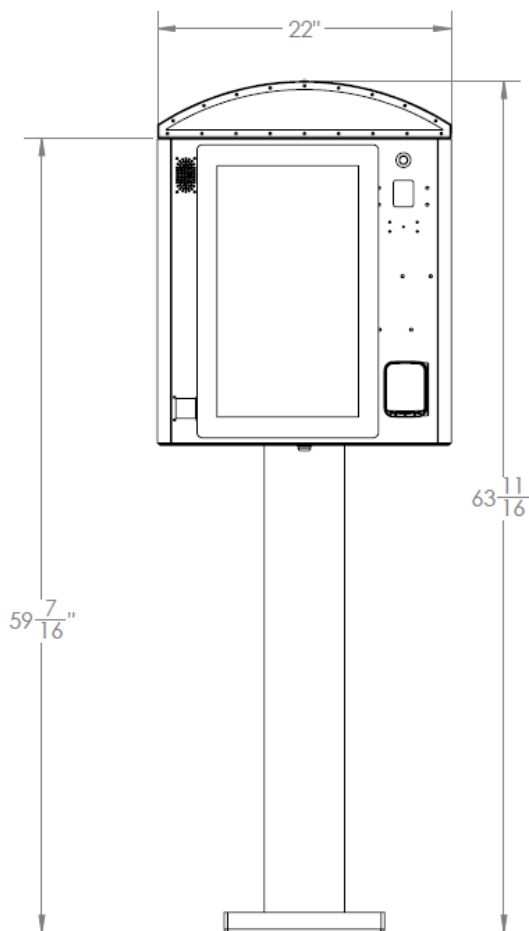
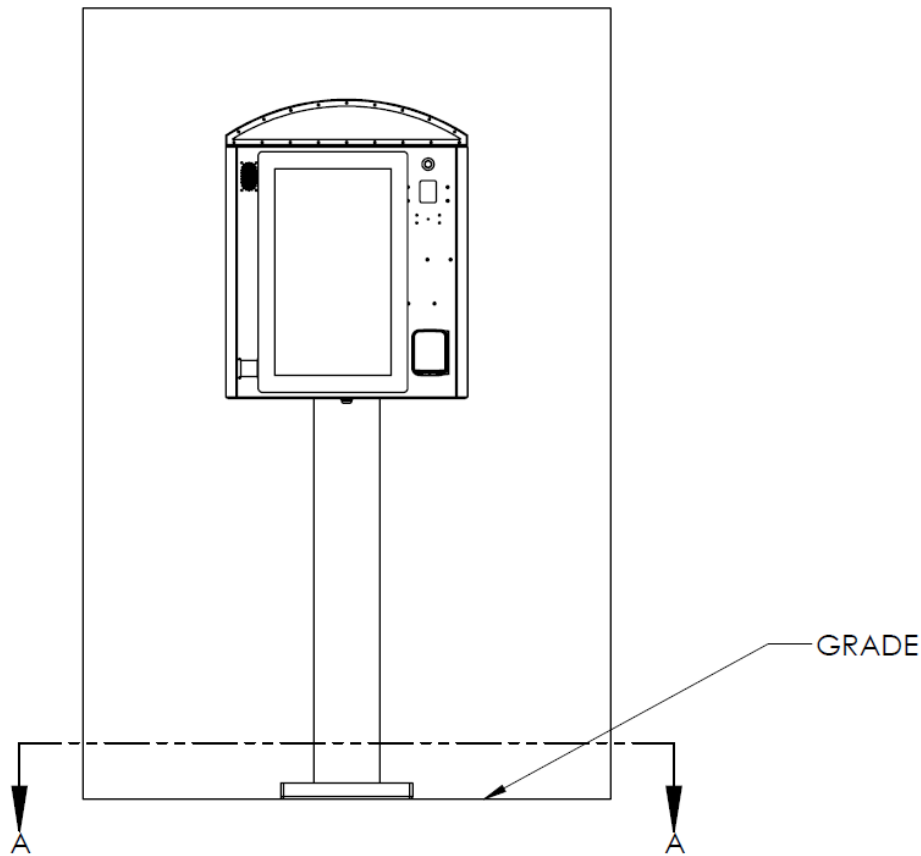
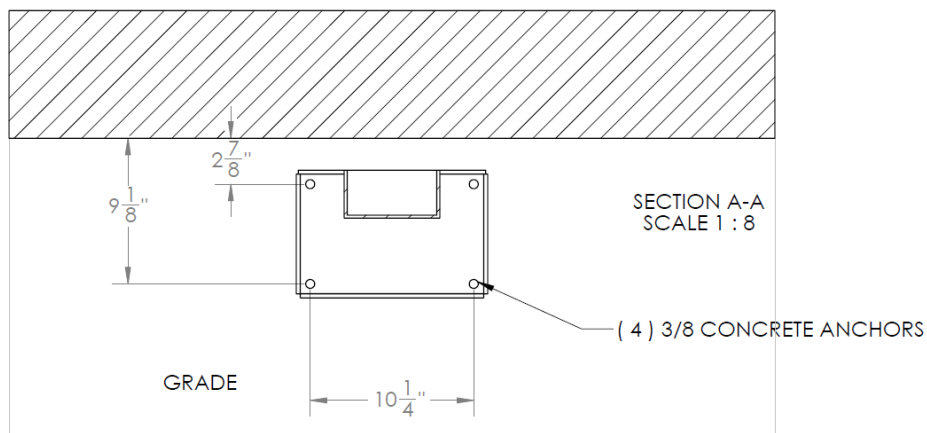

Figure 4: Model 120 Pedestal Mounting
Figure 5: Model 120 Pedestal Mounting Section Line
Figure 6: Model 120 Pedestal Mount (Anchoring Dimensions)
The INSOMNIAC 120 may be mounted on a concrete pad. Four (4) bolts will need to be anchored into the pad with which the pedestal base is to be attached. Holes in the pedestal base allow for 3/8" bolts to be used (please follow the bolt manufacturer's recommendations when anchoring bolts in concrete). Please see Figure 4: Model 120 Pedestal Mounting (page 11), Figure 5: Model 120 Pedestal Mounting Section Line (page 12), and Figure 6: Model 120 Pedestal Mounting (Anchoring Dimensions) (page 13) for illustrative guidance.